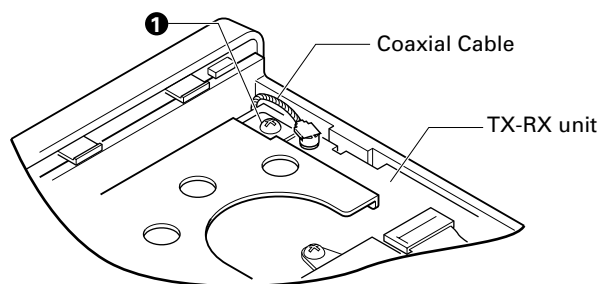

Fig. 1
1. When you connect the coaxial connector to the PCB, the coaxial cable may be slightly curved toward the chassis (Fig. 1).